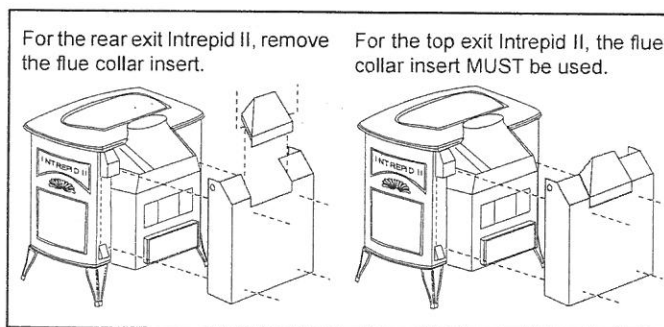

Figure 2 - Intrepid II flue collar insert.
- 2a. For the Intrepid II ONLY: The rear heat shield is packaged with the flue collar insert in place on the shield. If your Intrepid II will be installed with the flue collar in the top-exiting position, leave the insert in place. (Figure 2) If your stove will be installed with the flue collar in therear-exiting position, remove the insert. (Figure 2) To remove the insert, remove the two sheet metal screws holding it to the rear heat shield. Tape the screws to the insert. Save the insert and screws for use if the stove installation is changed and the flue collar is in the top-exiting position.
5. For the Intrepid II, if the stove is in the top-exiting position, the insert should already be in place. If it is not, attach the insert now as shown in Figure 2.